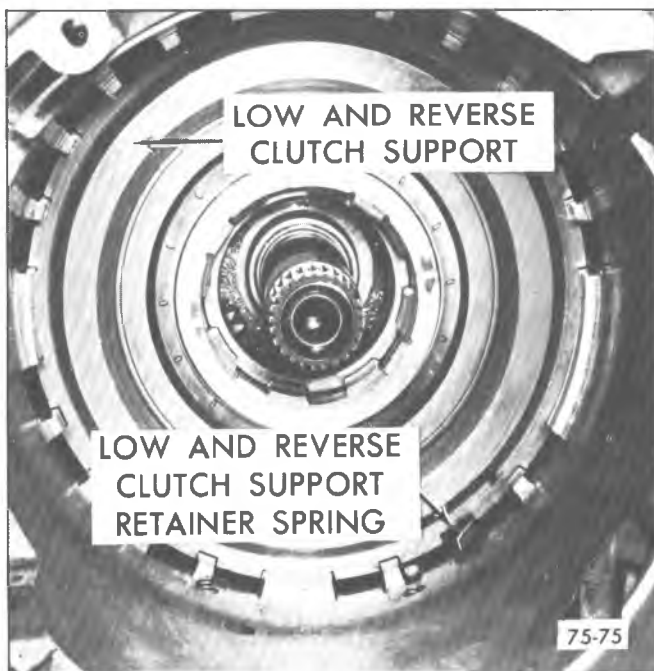

Fig. 103M--Installing Low and Reverse Clutch Support Assembly
9. Install low and reverse clutch support assembly with position of notch with low and reverse clutch support retainer (anti-clunk) spring as shown on Figure 103M.